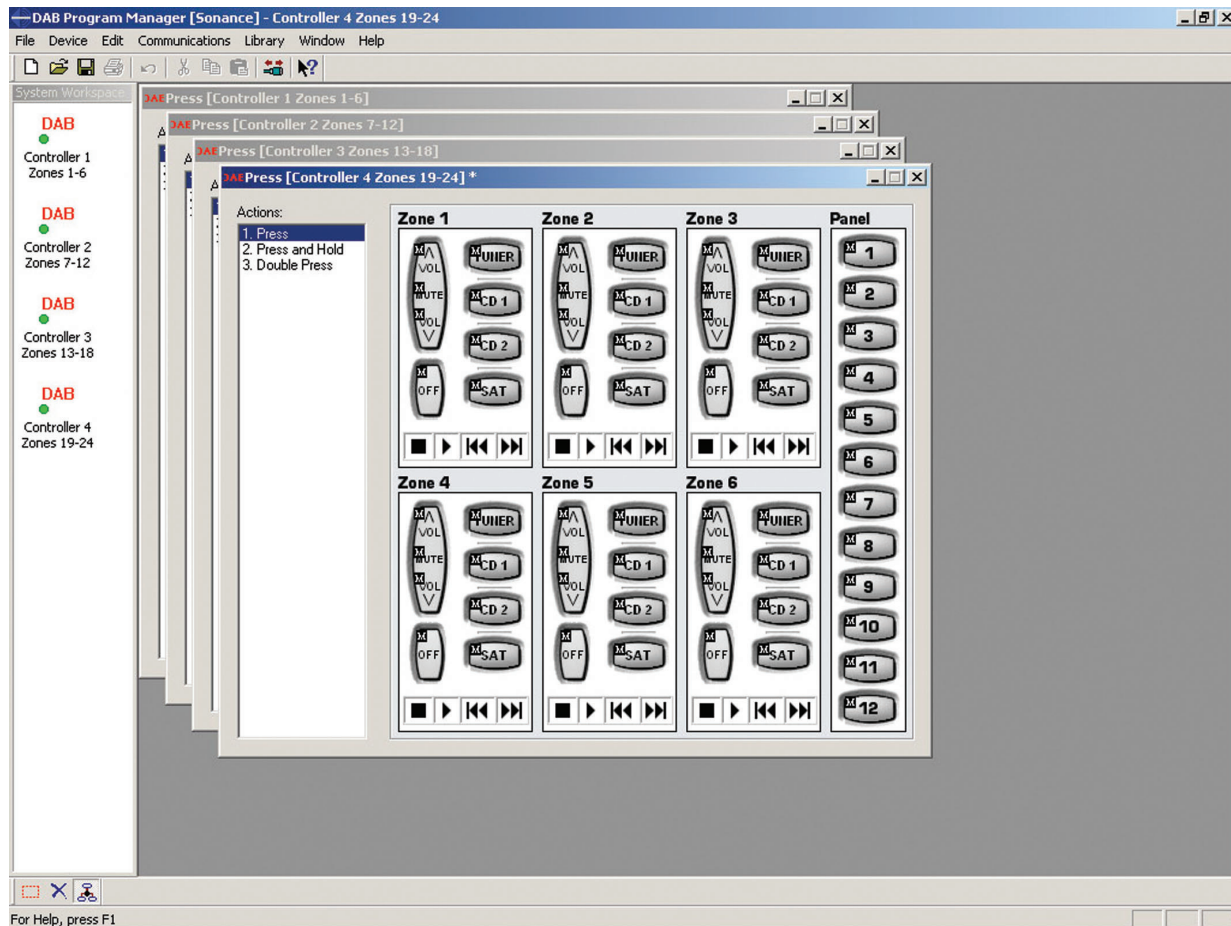

Figure 38. Program Manager. 4 Device, 24 Zone System
9. If Programming an EXPANDED SYSTEM with multiple Devices, Entering a Device name such as: Controller 1 Zones 1-6 and Controller 2 Zones 7-12 will help identify which Device is being programmed at a given time. See Figure 38.